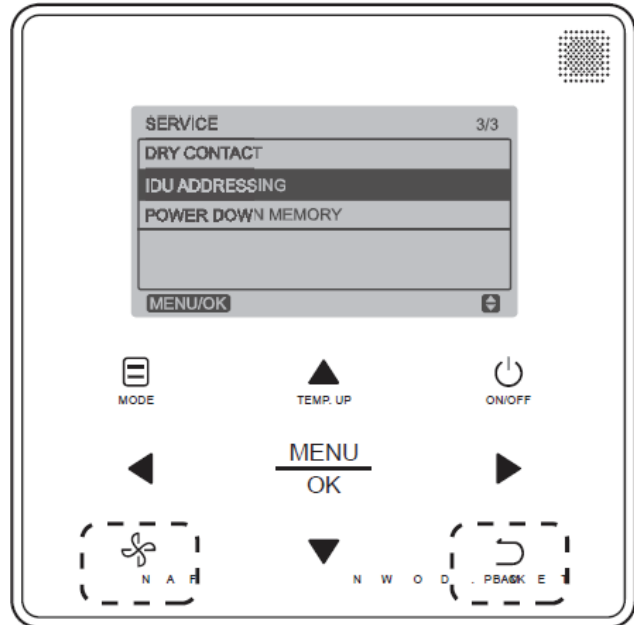

Fig. 33 —Programmable Controller IDU Addressing Menu
1. Press **FAN** and **BACK** simultaneously for five seconds to access the parameter settings as shown in Fig. 33.